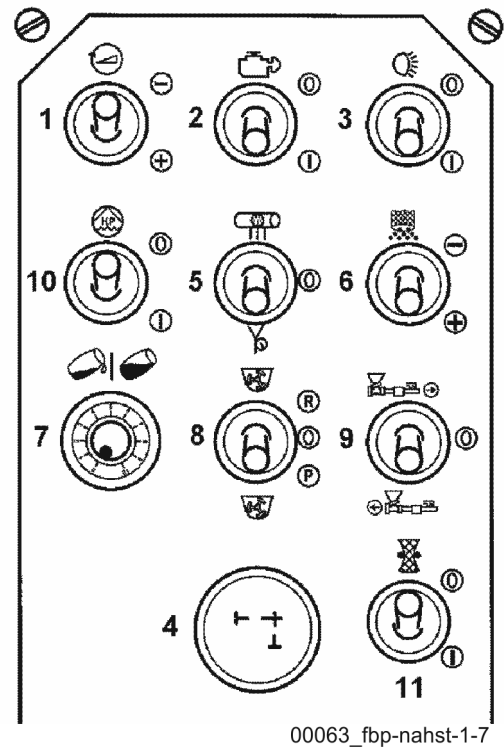

Fig. 443 Local control unit for a truck mixer pump
For truck mixer concrete pumps (FBP) as of series 02, a selector switch (11) (**Fig. 443**) on the local control unit serves the same purpose.